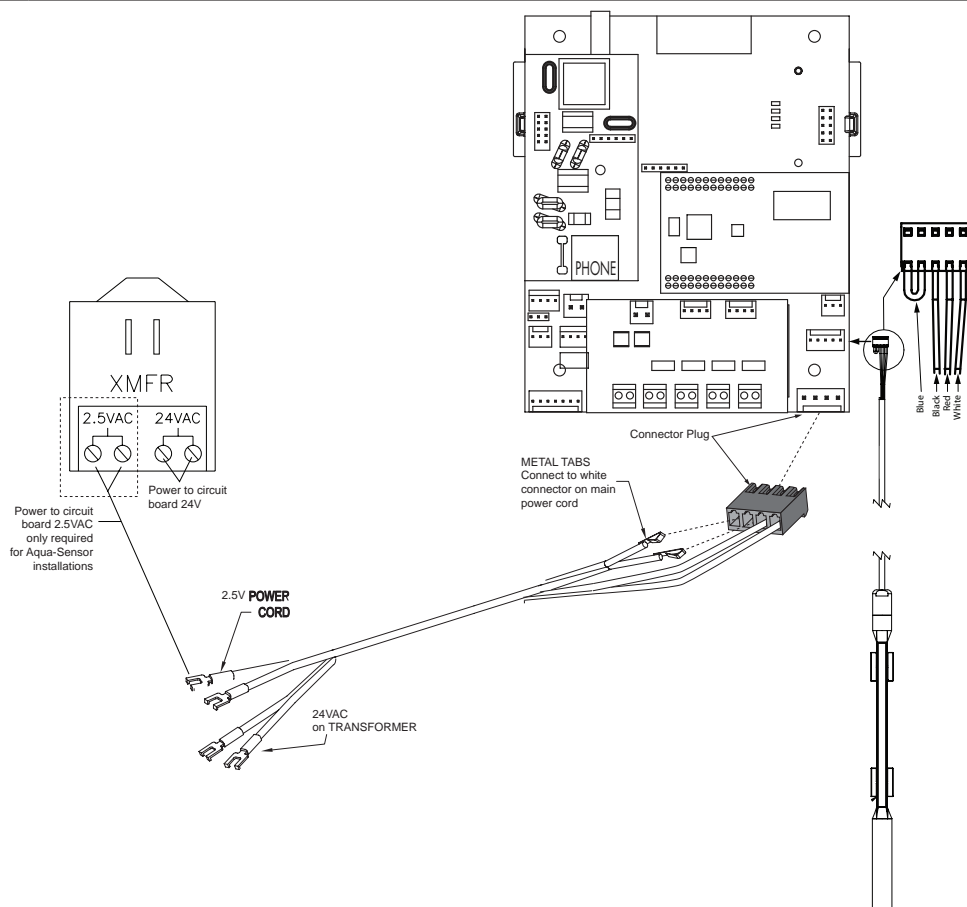

Figure 24. 2.5 VAC Aqua-Sensor® power connection.
- e. Connect the other end of the power cord, with the spade terminals, to the two 2.5 VAC terminals on the transformer (Figure 24).